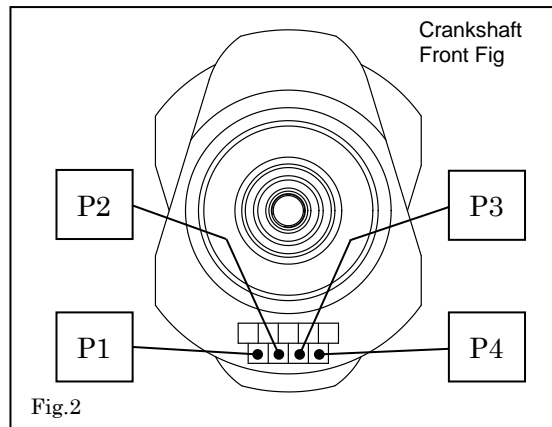

Fig.2
3.2 Confirm the O.D. of the Crankshaft Pin. (See the figure 2.)